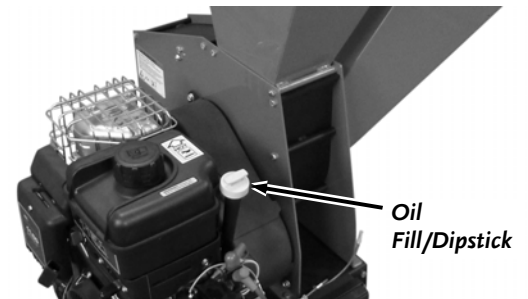

Figure 13
2. Replace the Oil Drain Plug and refill with new oil through the Oil Fill/Dipstick (**Figure 13**). See "**Adding Oil and Gasoline**" on page 10.